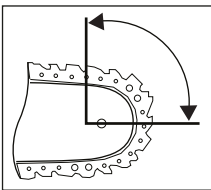

Fig. 1
- Contact with the tip of the rail can in some cases lead to an unexpected backward reaction resulting in the blade **16** flying upwards towards the operator (see Fig. 1).